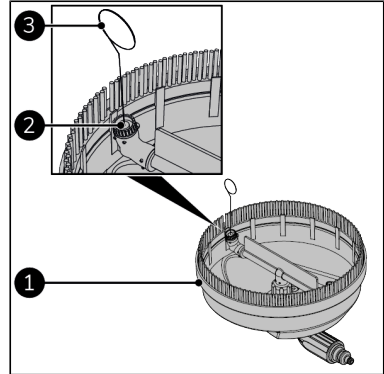

Figure 42.
3. Pull the floor cleaner (Figure 42, pos. 1) from the extension lance (Figure 25, pos. 2).
4. Clean both nozzles (Figure 42, pos. 2) with the cleaning pin (Figure 42, pos. 3).